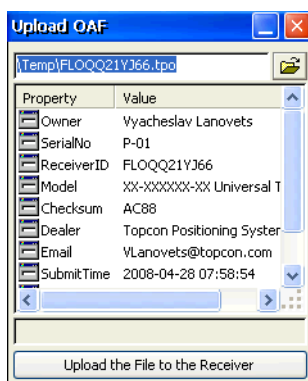

Figure 4-4. Upload OAF
- **Upload OAF** – uploads a new OAF file. By default, TRU offers to use the <receiver ID>.tpo file name. The **Upload OAF** dialog box displays (Figure 4-4 on page 4-5).
- **Save to File** – saves the dialog contents to a Unicode text file. By default, TRU sets the <receiver ID>.opt.txt file name (Figure 4-4).
Then *Upload OAF* dialog displays information about the selected OAF file (Figure 4-4). You can select another OAF if needed.